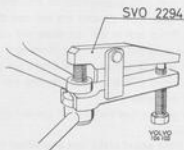

Fig. 6-21. Removing steering rod
3. Disconnect the steering rods from the steering arms with tool 2294 according to Fig. 6-21.
3. Remove the steering rod from the steering arm with tool 2294, see Fig. 6-21.
3. Disconnect the steering rod from the steering arm with tool 2294, see Fig. 6-21, and disconnect the brake lines from the stabilizer bolt.
4. Disconnect the steering rod from the steering arm with tool 2294, see Fig. 6-21. Loosen the clamp for the brake hoses. Remove the screw for the stabilizer.